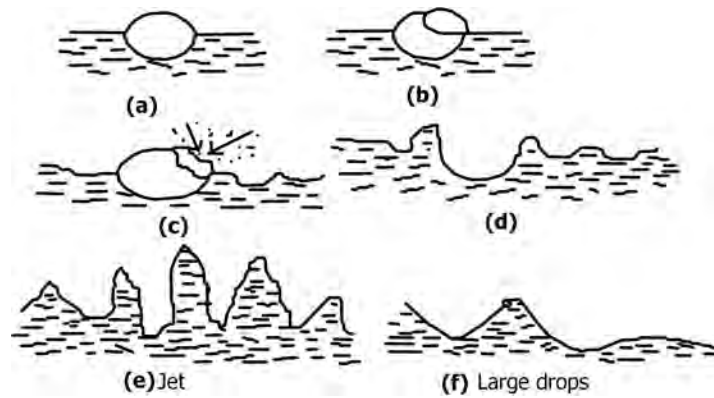

FIGURE 15.9 Bubble collapse and droplet formation phenomena.
- Figure 15.9 illustrates the above-described phenomena.